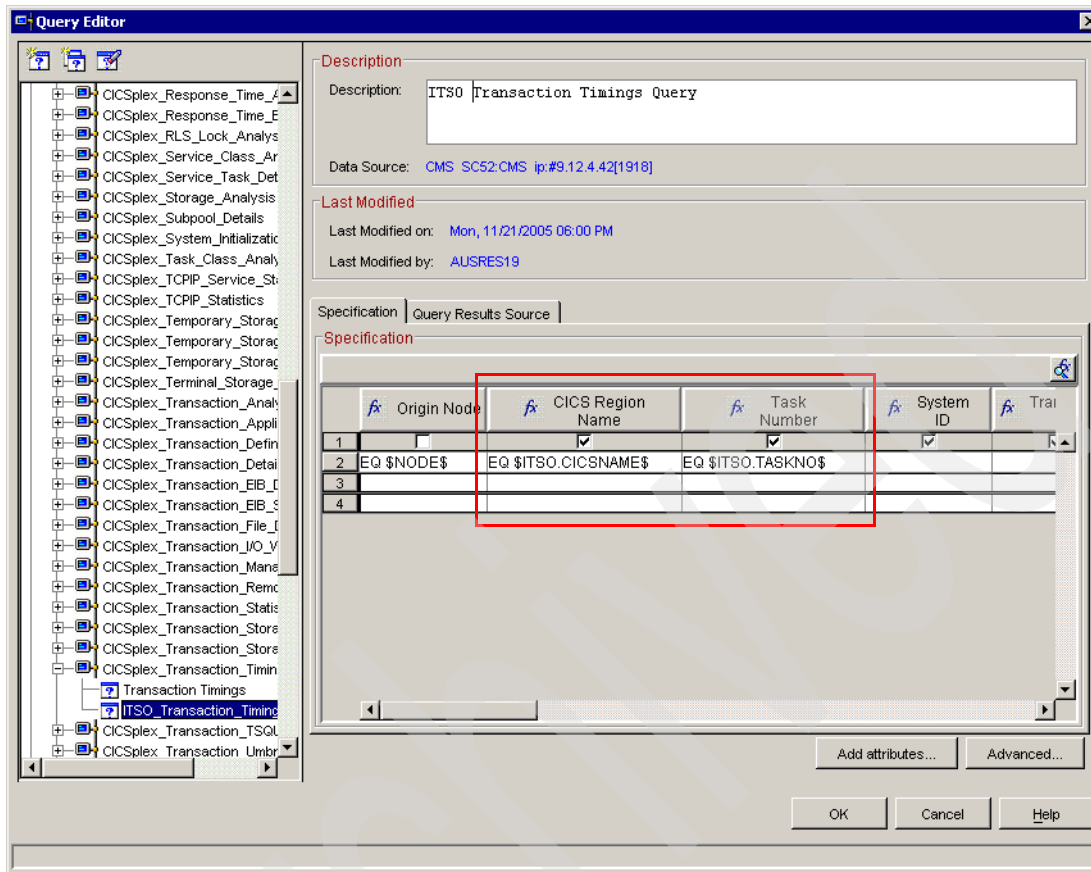

Figure 6-12 ITSO Transaction Timings query with link symbols
- c. Include all of the new link symbols in your new query as shown in Figure 6-12.